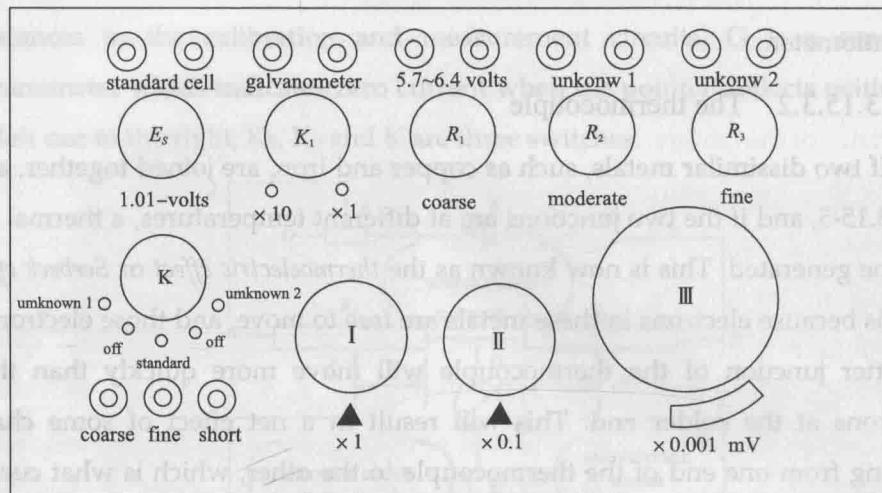

Fig. 3.15-6 Panel of the box potentiometer
Fig. 3.15-6 shows the panel of a box potentiometer. The knobs on the panel are introduced in Table 3.15-1.
(7) Tune  $E_s$  to set the value to  $1.0185\text{V}$ .
(8) Tune the stable power supply so that the output is in the range of  $5.7\sim 6.4\text{ V}$ .
(9) Press in the “short” button to see if the galvanometer reads zero. If not, adjust it mechanically by a screwdriver. There are five sensitivity grades for the galvanometer. The greater the number, the more sensitive the galvanometer is. You can choose the sensitivity as high as possible but the pointer of the galvanometer should not oscillate when current goes through it.
(10) Rotate the switch  $K$  to “standard” and set grade “1” for the galvanometer. Push in the “coarse” knob at the lower left corner. If the galvanometer deflects far from zero, adjust  $R_1$  and  $R_2$  (see Fig. 3.15-6) until the galvanometer deflects little from zero. Rotate the “coarse” knob to lock it. Push in the “fine” knob and increase the sensitivity of the galvanometer. Tune  $R_3$  until the galvanometer reads zero. Choose the sensitivity as high as possible so that
(12) Turn the switch K to "unknown 1" or "unknown 2" to measure the unknown emf.
(13) Push in the "coarse" knob. If the galvanometer deflects far from zero, adjust knobs "I" and "II" (see Fig. 3.15-6) until the galvanometer deflects little from zero. Rotate the "coarse" knob to lock it. Push in the "fine" knob. Tune knob "III" until the galvanometer reads zero. Now, read the scales on the knobs "I" "II" and "III" and add them up. The result is the emf produced by the thermocouple at temperature of 35°C.
(14) Repeat Steps (6) through (13) to complete Data Table 3.15-1 for the temperatures given in the table.